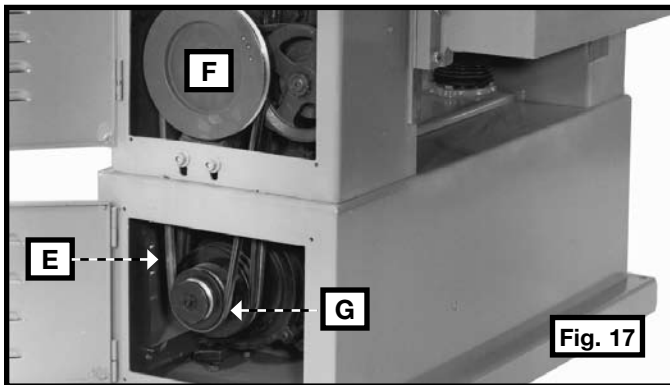
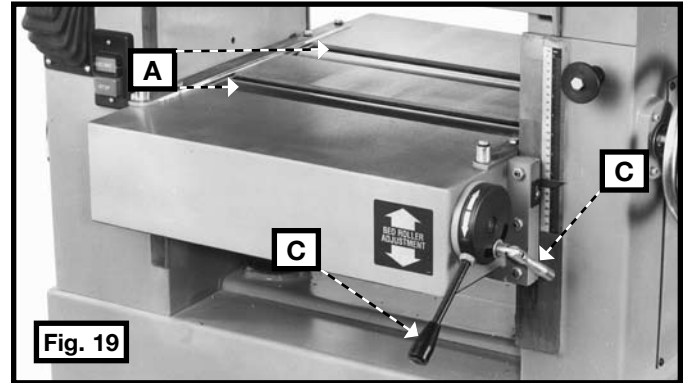

Fig. 17
Fig. 18
5. Reposition the drive belt (E) Fig. 17 on the pulleys (F) and (G). With the belt (E) Fig. 17 on the smallest step of motor pulley (G) and the largest step of the gearbox pulley (F), the feed roller speed will be 20 feet per minute. With the belt (E) Fig. 17 on the largest step of the motor pulley (G) and the smallest step of gear box pulley (F), the feed roller speed will be 30 feet per minute. A feed rate adjustment chart is located on the back of panel (C) Fig. 18.